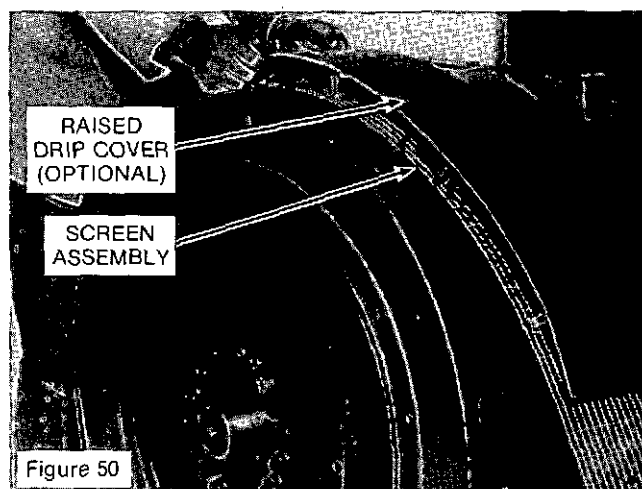

Figure 50
- b. For single bearing generators, if the screen assembly is mounted on the adaptor, remove the mounting bolts and remove the screen (see Figure 50). (NOTE: Do not remove the drip cover from the screen assembly if so equipped.) Insert two guide pins in the flywheel and two in the flywheel housing. Adjust the generator position until the drive discs are piloted in the flywheel. Remove the guide pins and secure the discs with Grade 8 place bolts and hardened washers or Grade 8 capscrews and heavy series lockwashers. (Torque per Figure 49.)